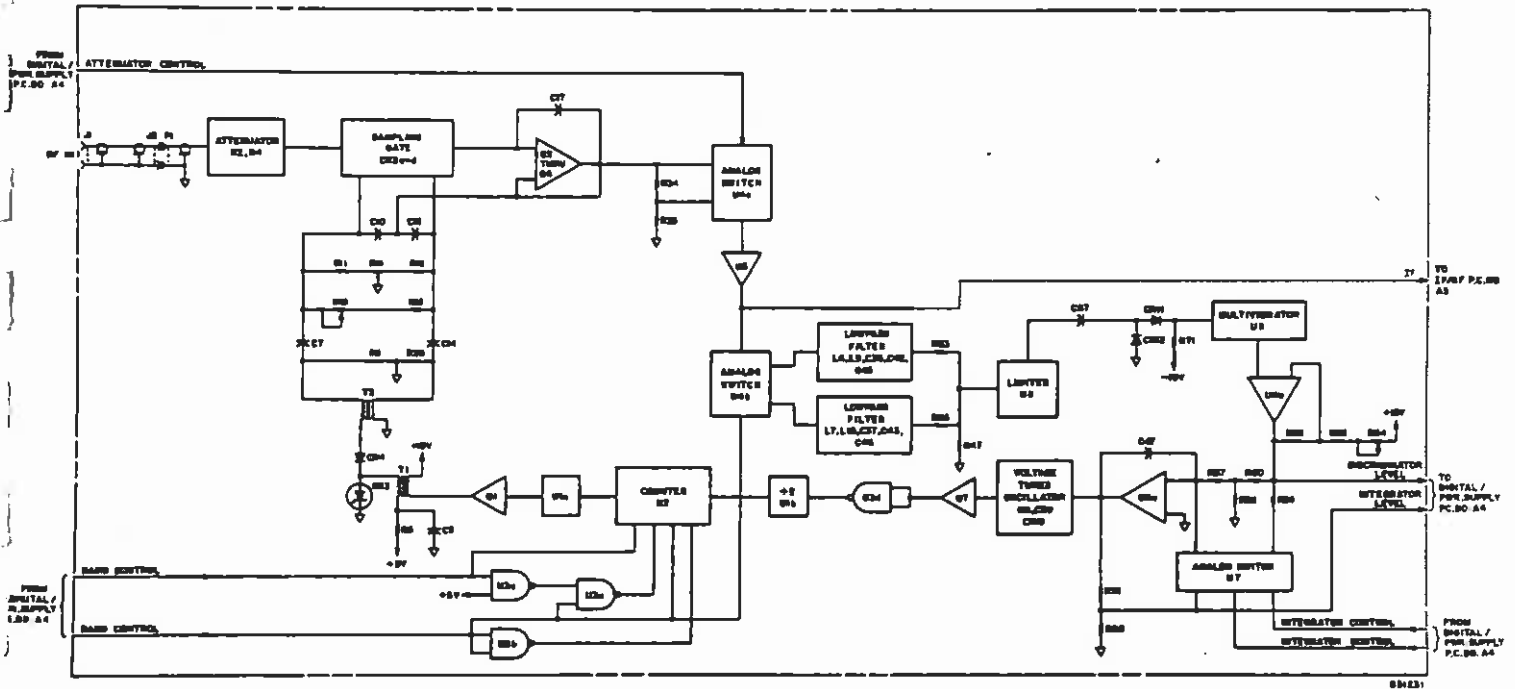

Figure 3-2. R.F. Circuits: Detailed Block Diagram.
a. R.F. Circuits. The r.f. circuits convert the r.f. input signal that is to be measured into a 400 kHz i.f. signal. With the assistance of a microprocessor, a local oscillator signal is generated and controlled so as to maintain this intermediate frequency. (Refer to Figure 3-2, a detailed block diagram of the r.f. circuits).